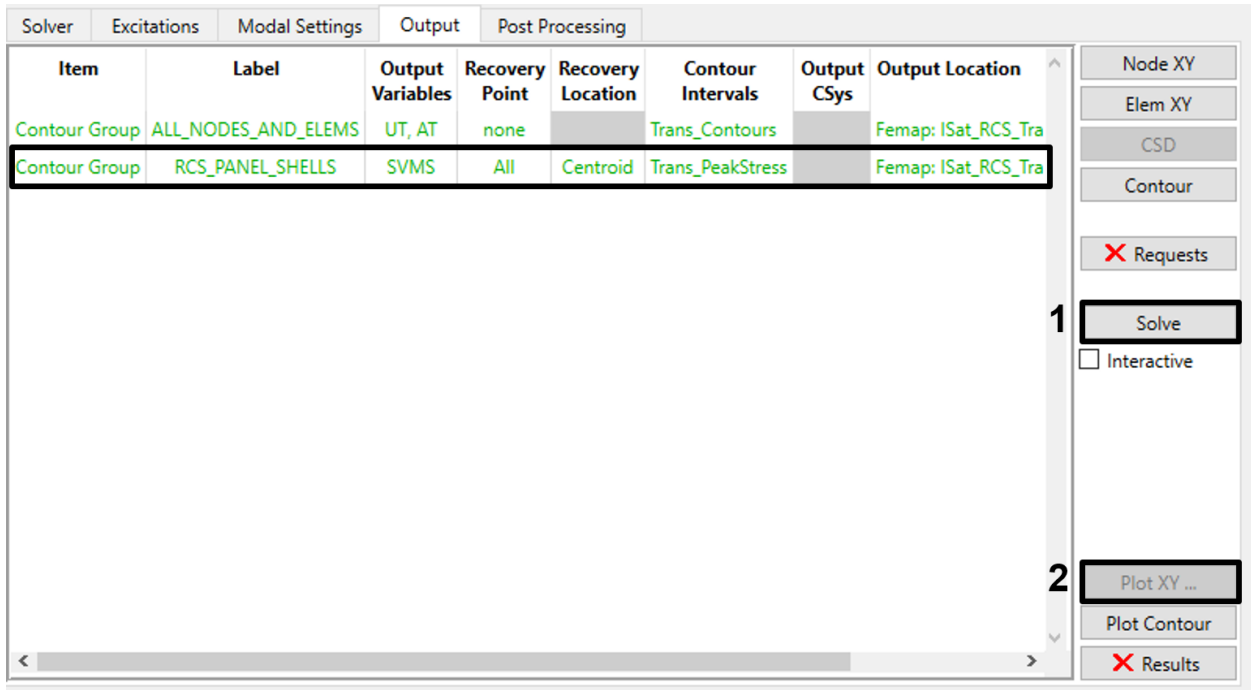
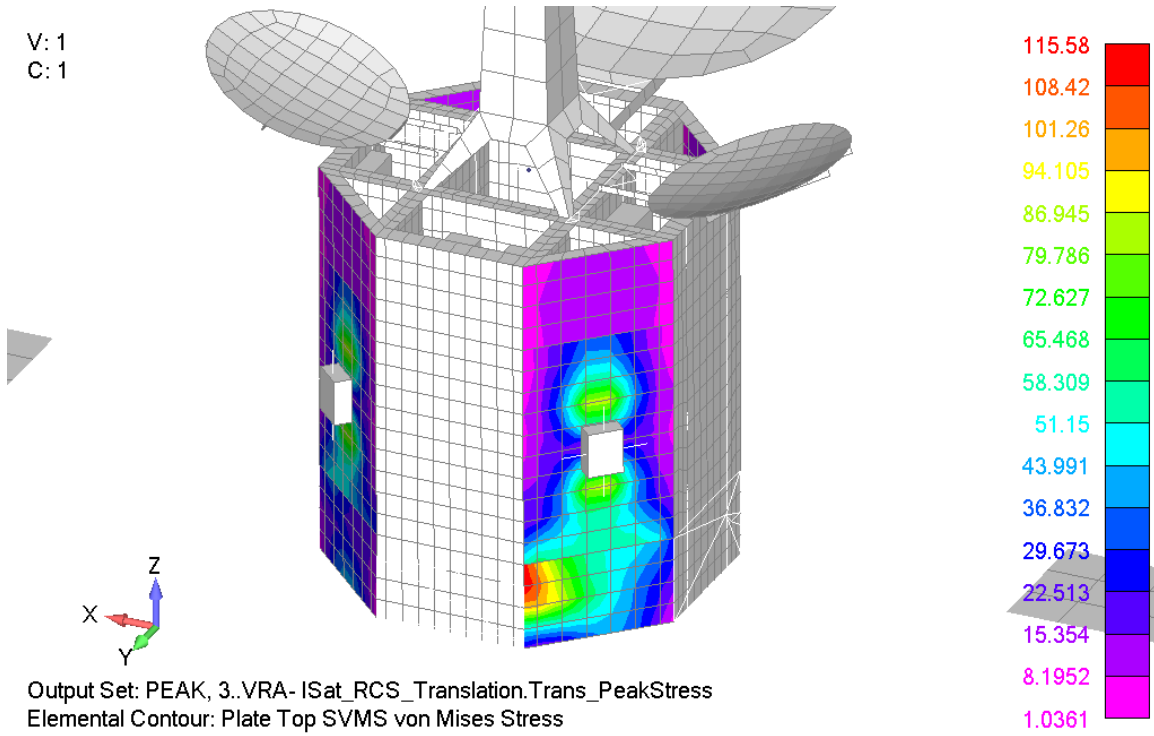
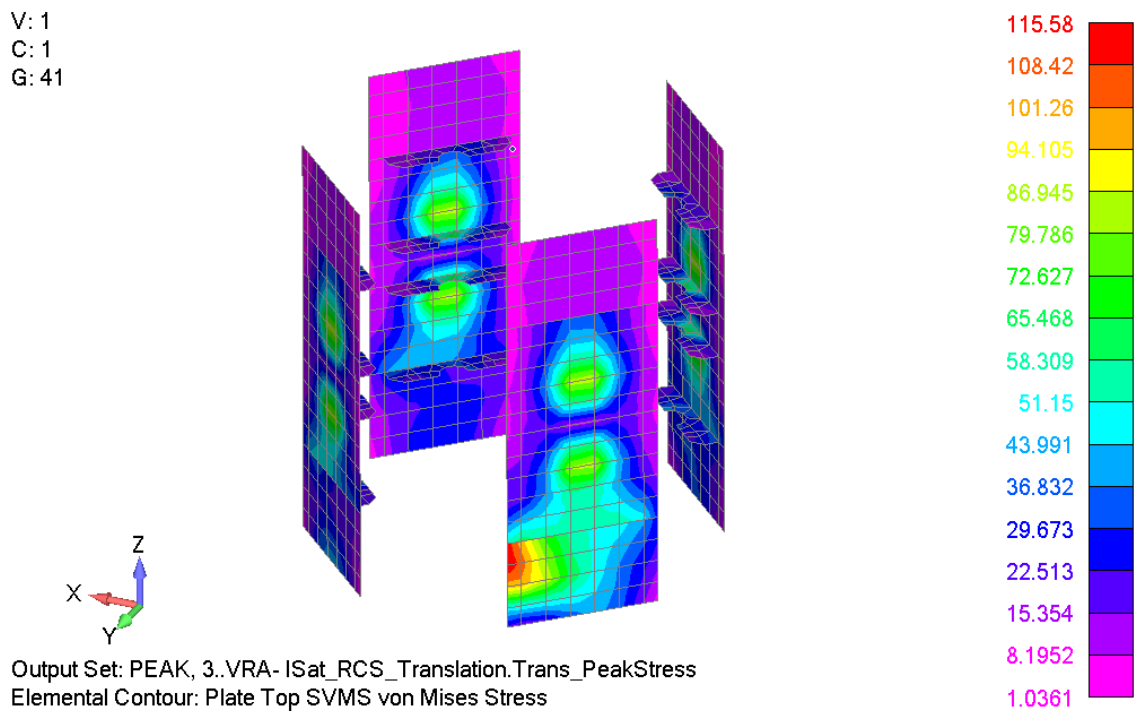

Figure 4-102. Select the RCS Panels contour request and plot its results.
Figure 4-103. Peak von Mises stress contours in RCS panels.
Figure 4-104. Von Mises results with only the RCS panels group displayed.
10. Solve the new contour request. When the solver finishes, select the new contour request in the table, then click **Plot Contour** (Figure 4-102). Vibrata will set Femap to display the results from the selected request (Figure 4-103). Since we only requested stresses for the RCS\_PANEL\_SHELLS group, you may want to display only that group (Figure 4-104).